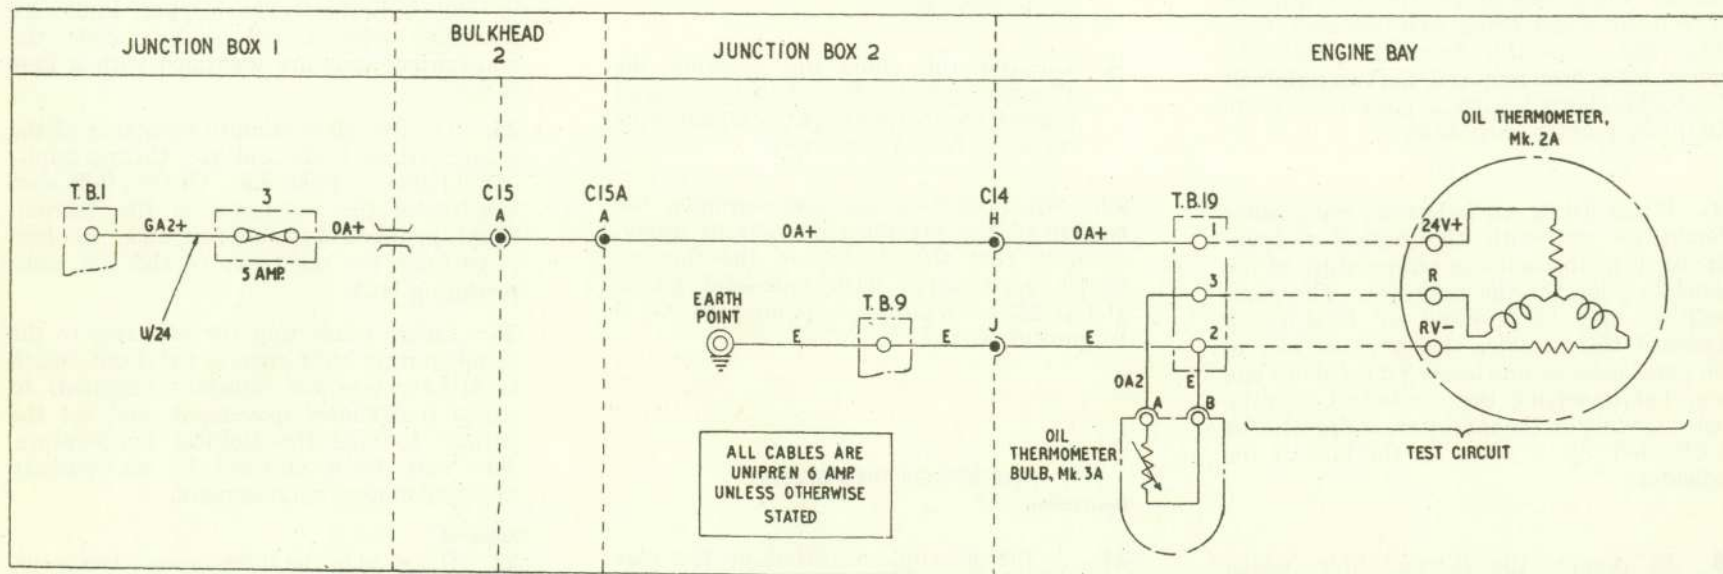

Fig. 4. Oil thermometer—OA
30. To check the oil temperature, connect an oil thermometer, Mk. 2A (Stores Ref. 6A/2238) to T.B.19, as shown in fig. 4.